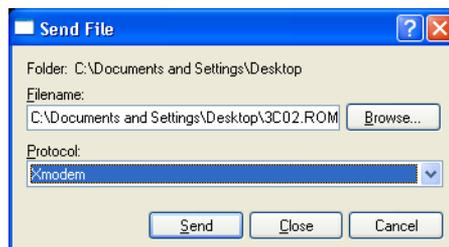

Figure 7-7 BIOS—Recovery/Send File Screen
- c. Select **Send** to start ROM File extraction as shown in Figure 7-7.